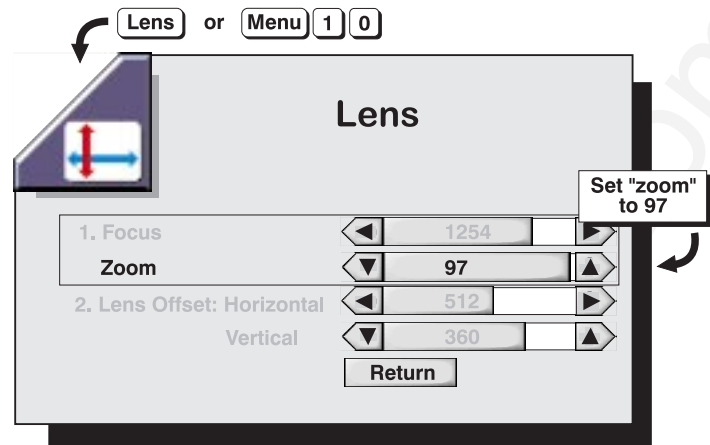

Figure 4-8. Set “Zoom” to 97
- d) On the keypad, press **Lens** or **Menu** **1** **0** to access the *Lens* menu. Set the lens *Zoom* setting to 97 (maximum). See Figure 4-8.